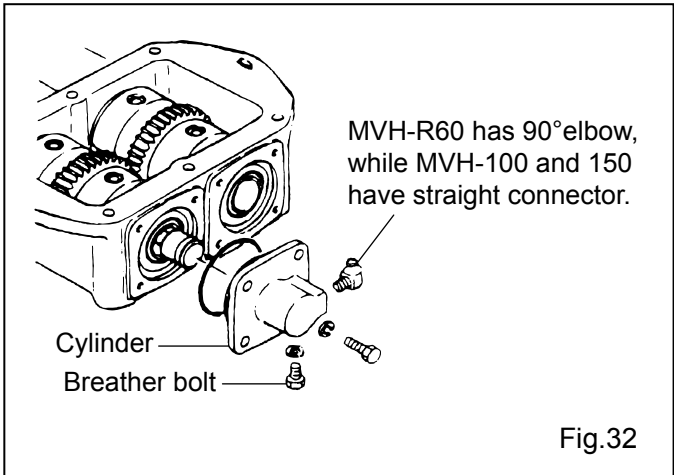

Fig.32
Install o-ring to the cylinder and coat it with grease. (See Fig. 32)
1. Install straight connector or 90°elbow and breather bolt (See Fig.32).